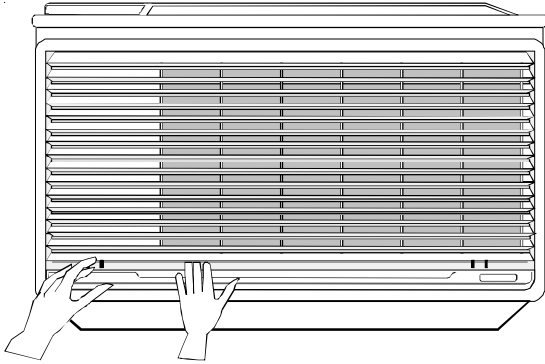

Figure 10
1. Remove the grille and filter from the front panel (Figure 10). Doing one side at a time, press the tab on the front panel (Figure 10) with one hand while lifting the grille with the other.
Two rotary knobs (Figure 10) control temperature and operational modes. They are located to the top left of the cabinet front.
1. Remove the grille by pressing the tabs one at a time on the front panel (Figure 10) with one hand while lifting the grille with the other.